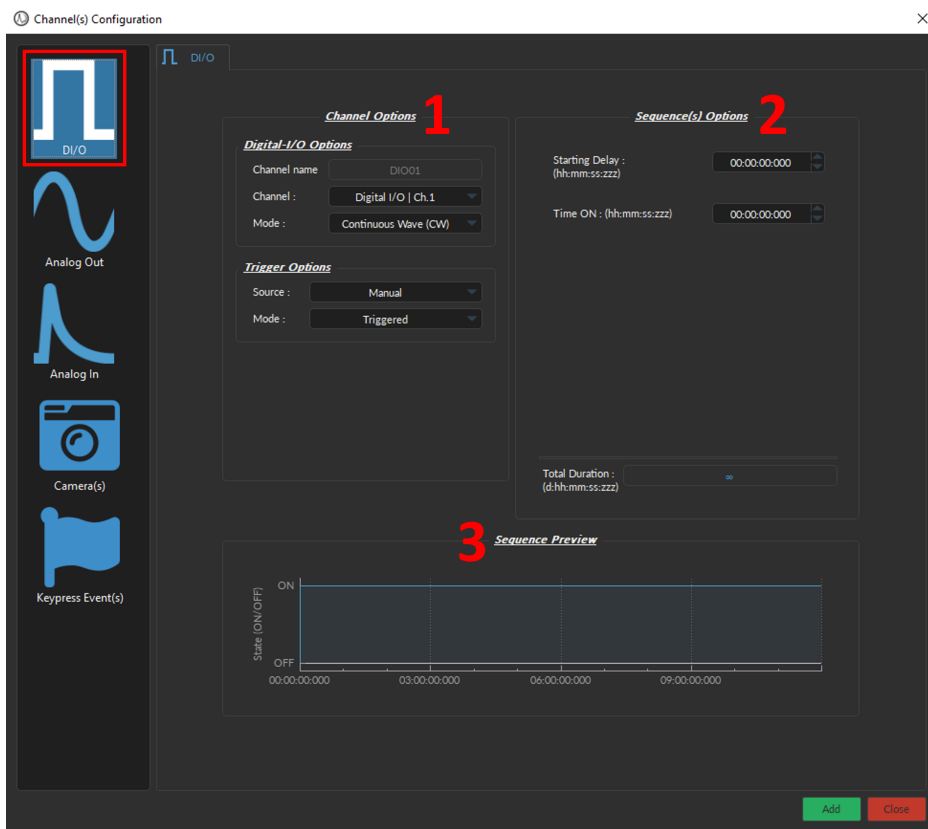

Figure 6.13: *Channel(s) Configuration, Digital I/O*
The *Channel(s) Configuration* window for the **Digital I/O** Channel is divided into three sections (Fig. 6.13): (1) the **Channel Options** (Section 6.4.3.1), (2) the **Sequence Options** & (3) **Preview** (both treated in Section 6.4.3.2).